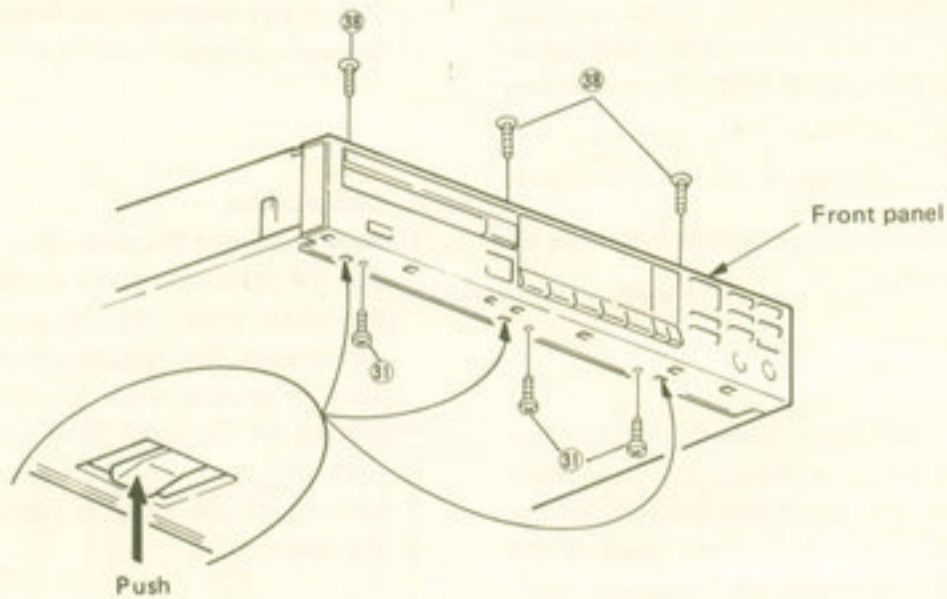

Fig. 1
1 Remove three screws (38) and three screws (31) securing Front Panel. (Figure 1)
2 Push three hooks on the bottom of the Front Panel with a (+) screwdriver, and draw the Panel forward releases hooks to detach the Front Panel from the chassis. Further, the Front Panel and the P.W.B.'s are linked with connectors, remove them as necessary. (Figure 1)